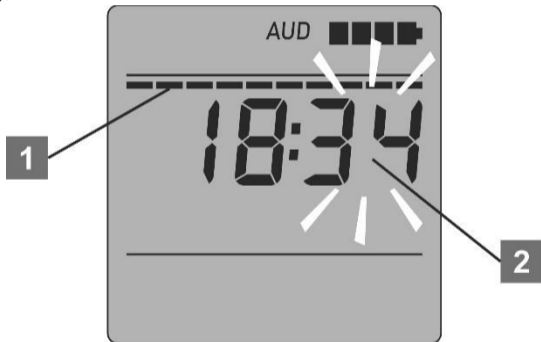

Figure 22 – LCD of the dosimeter
To proceed to the submode of time and date correction, press and hold the THRESHOLD button until a stripe (1) “moving” across the instantaneous value indicator appears on the LCD, and the digits of minutes (2) start blinking (Figure 22).